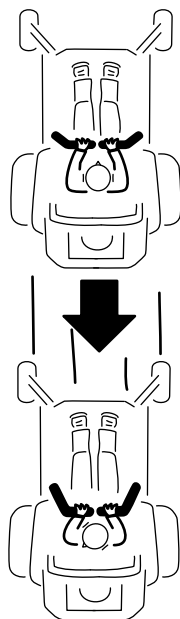

Figure 22
- 2. To go backward, slowly pull the motion-control levers rearward (Figure 22).